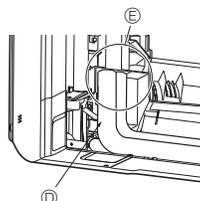

Fig. 3-10
6. Cover the flare connection portion with the pipe cover of the L-shaped connection pipe ④ so that it is not exposed. (Fig. 3-10)
8. Cover the flare connection portion with the pipe cover of the L-shaped connection pipe ④ so that it is not exposed. (Fig. 3-10)